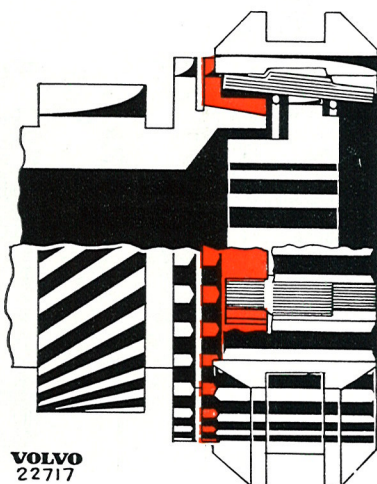

Fig. 4-20. Synchronizing
The design and function of the synchronizing mechanism is shown in Figs. 4-19—4-21. When a gear is engaged, the gear selector fork presses the engaging sleeve (3, Fig. 4-19) towards the corresponding gear wheel. The engaging springs (4) then press the synchronizing cone (2) against the cone on the gear wheel (1). If the synchronizer and gear wheels are rotating at different speeds, the synchronizing cone will turn in relation to the engaging sleeve. However, the synchronizing cone is prevented from turning more than half a tooth-width by the engaging springs, see Fig. 4-20. The teeth on the synchronizing cone then have half their width in contact with the teeth on the engaging sleeve and in this way prevent it from engaging. Due to friction between the synchronizing cone and the gear wheel, the gear wheel attains the same rotational speed as the synchronizer. When they are both rotating at the same speed, the engaging sleeve is able to turn back the synchronizing cone and the gear engages, see Fig. 4-21.